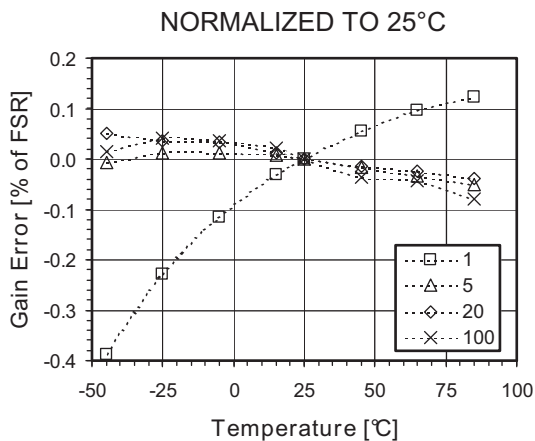

Figure 55. Gain Error vs. Temperature for Different Gains
**Figure 55** shows gain error drift vs. temperature for different PGA gains. The curves are expressed in % of Full-Scale Range (FSR) normalized to 25°C.